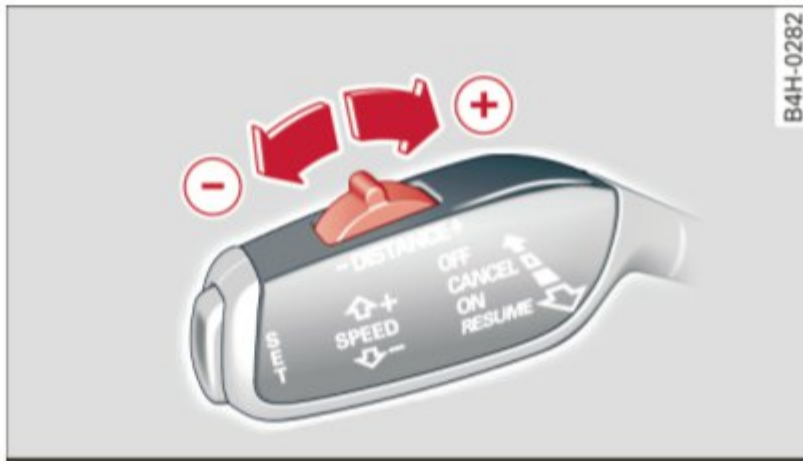

Fig. 105 Selector lever: setting the distance
- ▶ Tap the switch to display the current set distance ⇒ *fig. 105*.